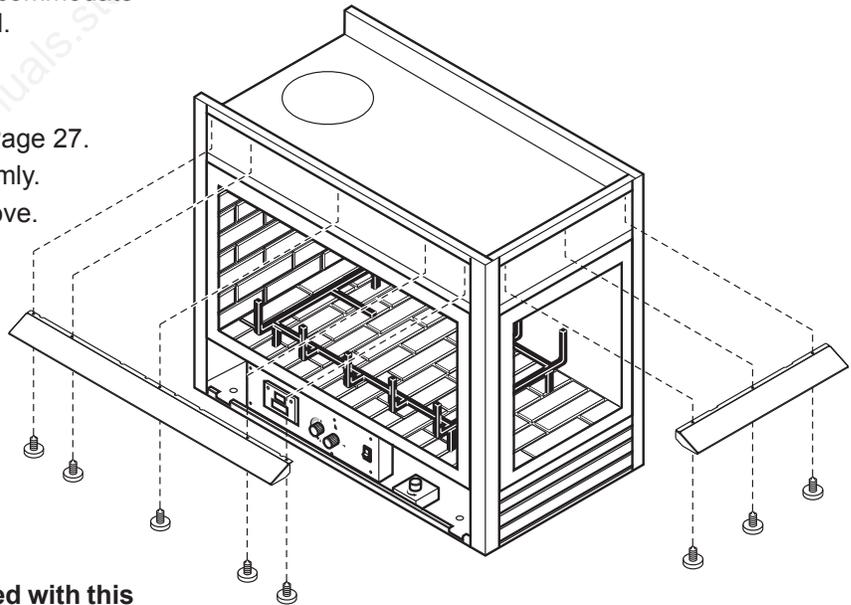

Figure 9 - Install ALL Canopies
2. Remove three (3) top louvers by pulling firmly.
3. Locate screws on upper frame and remove. (Five (5) screws on long side and three (3) screws on short side.) *Figure 9*
1. Remove the eight (8) screws securing the flue pipe adapter to the fireplace body. *Figure 9*